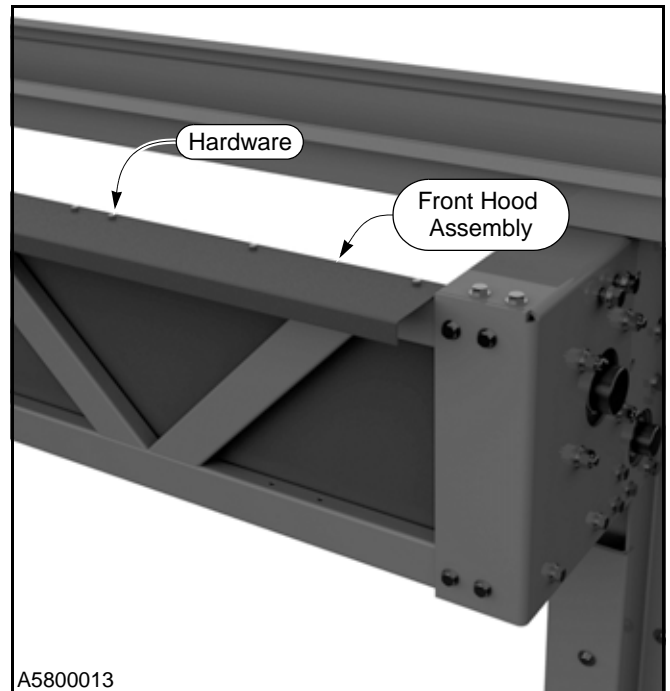

Figure 37
3. Install two front hood pieces onto the front truss assembly. Use 1/4-14 x 3/4-in. hex washer self-drilling screws. (See Figure 37.)